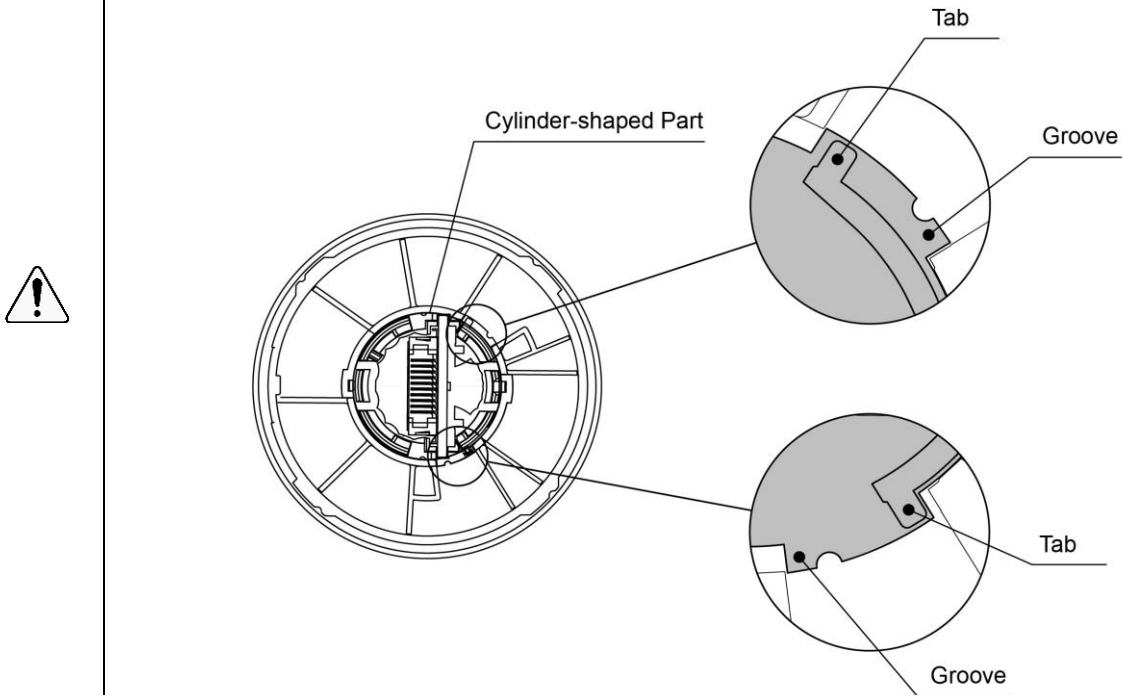
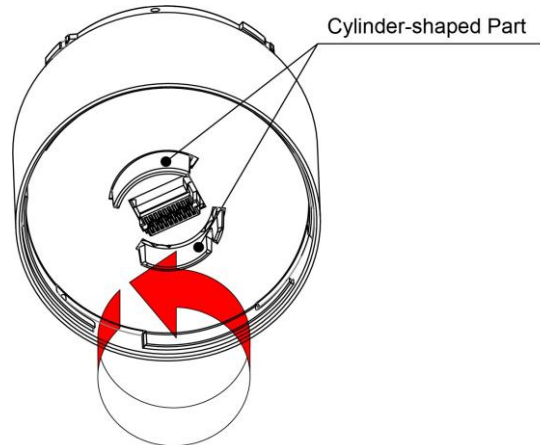

Figure 1
Figure 2
- ◇ If an LED unit does not attach properly to this product, confirm that the tab of the cylinder-shaped part at the top of the LED unit is fitted correctly into the groove. If the tab is outside the groove as shown in Figure 1, refer to Figure 2 on how to reposition it. Additionally, depending on how it is detached, the tab may come out of the groove (as shown in Figure 1) when detaching the LED unit from this product. If the product is attached again while the tab is still in this state, it may become damaged.
- In the center of the underside of the product, turn the cylinder-shaped part counter-clockwise. (Refer to  Figure 2)